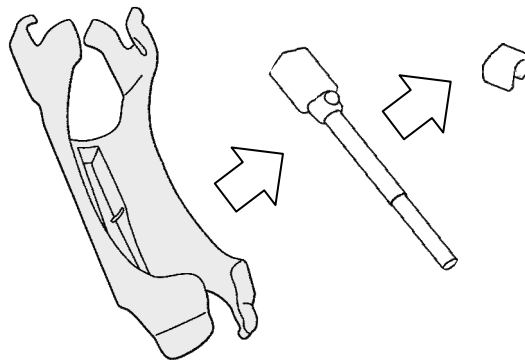

Fig.11 How to release the Magnetic sensor from the Magnetic sensor attachment
- 2) Release the Magnetic sensor and the Spacer for EZU-RV2S from the Magnetic sensor attachment as shown in Fig.11.